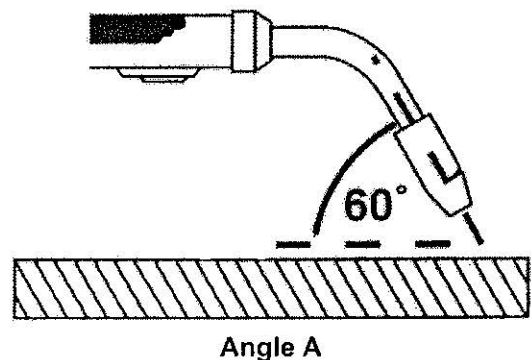

Figure 9. Gun Position, Angle A
1. Angle A (Figure 9) can be varied, but in most cases the optimum angle will be 60 degrees. The point at which the gun handle is parallel to the work piece. If angle A is increased, penetration will increase. If angle A is decreased, penetration will decrease also.